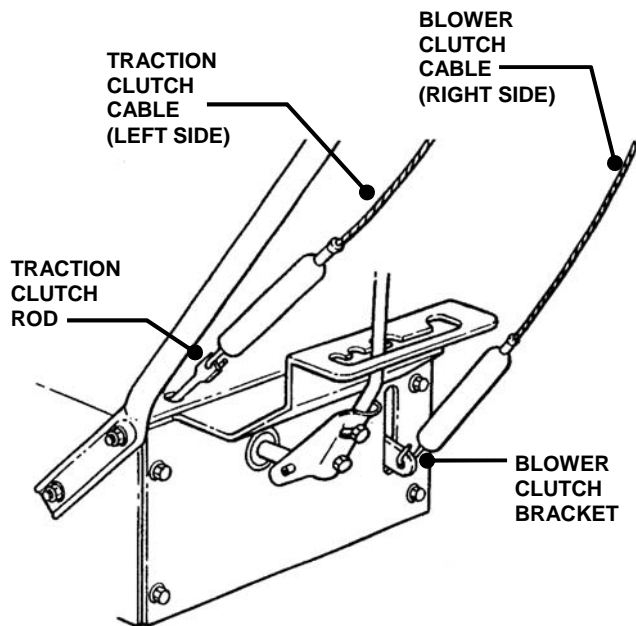

FIGURE 5
**STEP 5: CABLES:** Make sure that the cables are connected to the traction clutch rod and blower clutch bracket. **IMPORTANT:** Cables should have some slack and should not be under tension. See Figure 5.